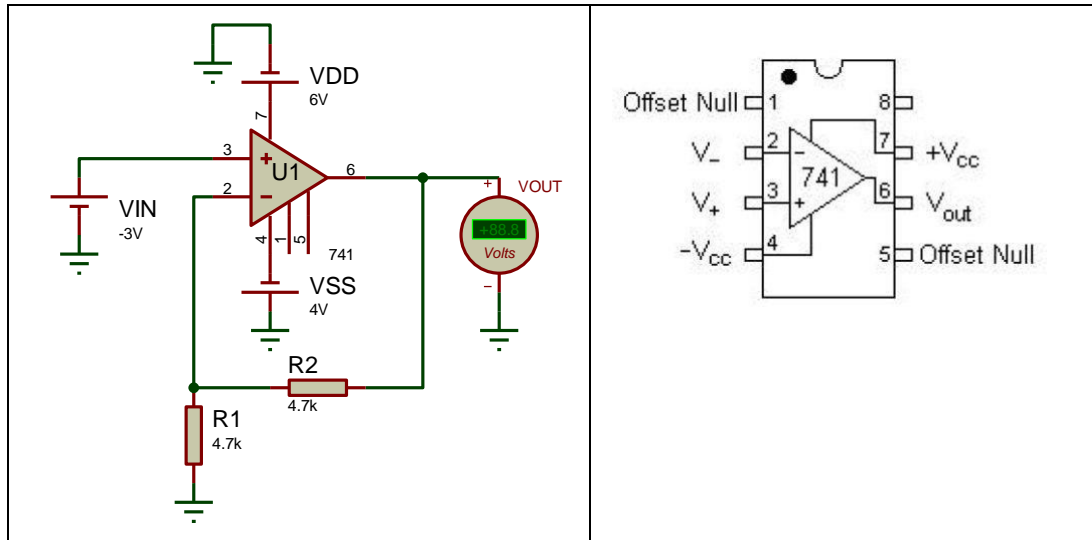

Figure 10.2
1. Construct the non-inverting amplifier as shown in Fig 10.2. Let V_{DD} be +6V and V_{SS} be -4V. R_1 and R_2 are 4.7k.
1. Connect the circuit of Fig. 10.2 with $R_1 = 10\text{ k}\Omega$, R_2 be replaced with a resistor of $100\text{ k}\Omega$, $V_{DD} = 12\text{ V}$ and $V_{SS} = -12\text{ V}$. Use a 100-mV_{pp} 1-kHz sine wave input voltage to measure the system voltage gain.